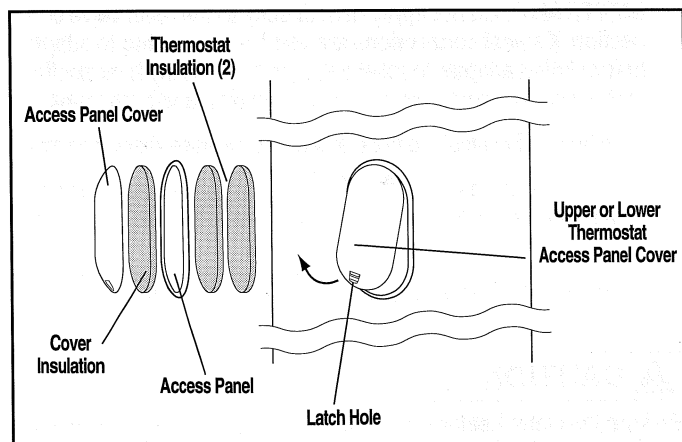

Figure 17 — Removing Access panel for replacement of element.
- F. Remove the thermostat snap-in access panel cover. Insert finger into latch hole on the bottom of the cover, and push up to release the latch. Then pull forward to remove the cover and insulation. Remove the four (4) screws securing the thermostat access panel and the two (2) thermostat insulation pads, exposing the thermostat. (See Figure 17.)